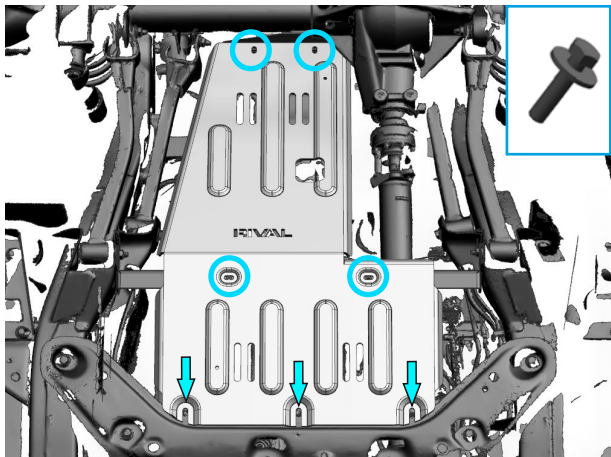

Fig. 7
6. Put engine skid plate (item 1) on installed bolts M10x30 from step 5. Fix skid plate to bracket and beam using bolts M10x30 and washers 10 (item B, E) (Fig. 7).